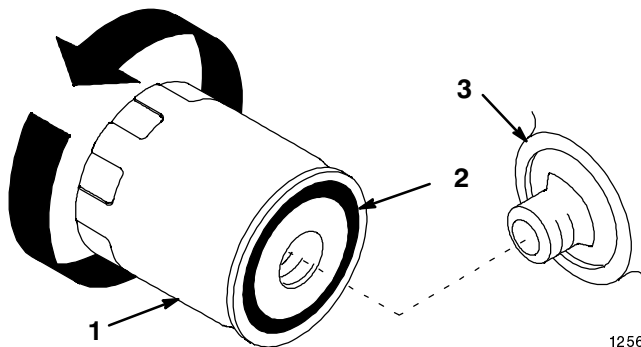

Figure 17
6. Change the oil filter (Fig. 17).
2. Remove the old filter and wipe the filter adapter (Fig. 17) gasket surface.
3. Apply a thin coat of new oil to the rubber gasket on the replacement filter (Fig. 17).
4. Install the replacement oil filter to the filter adapter. Turn the oil filter clockwise until the rubber gasket contacts the filter adapter, then tighten the filter an additional 1/2 turn (Fig. 17).